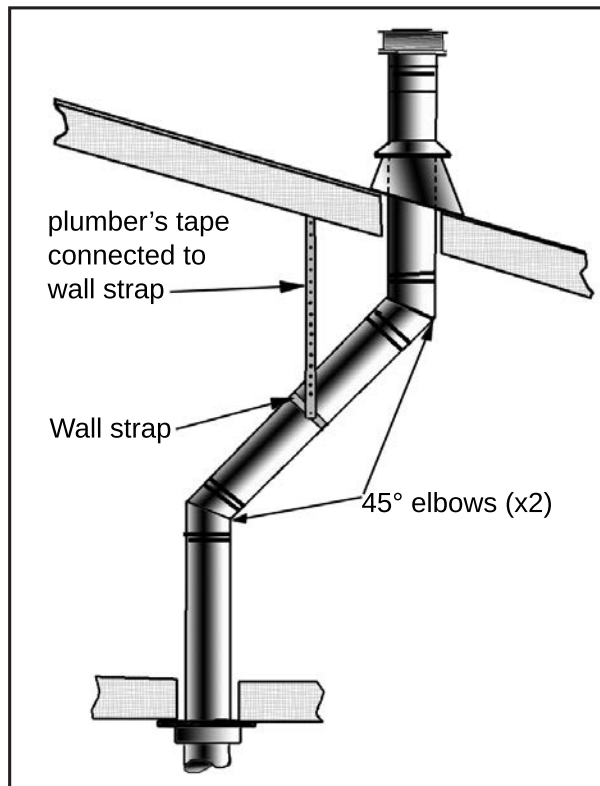
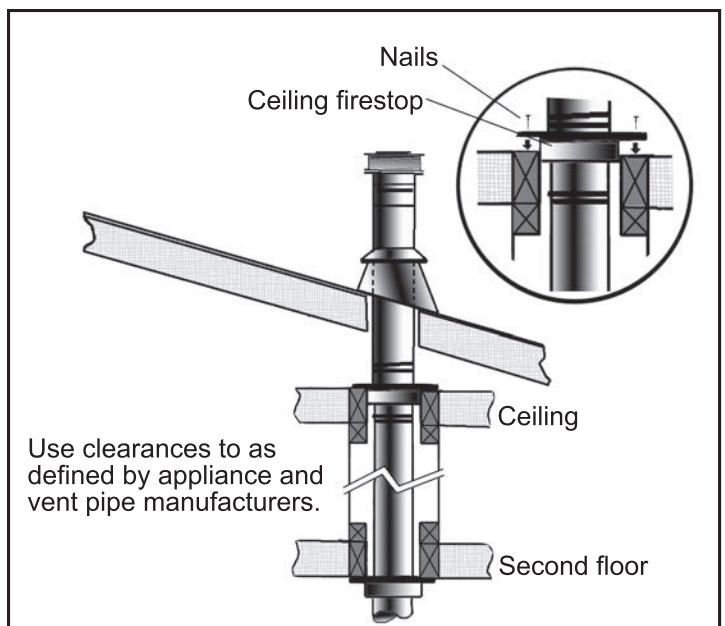

Figure 45: Use of Wall Straps.
Figure 46: Multi-Story Vent Pipe Installation.
- (1) If an offset is necessary in the attic to avoid obstructions, it is important to support the vent pipe every 3 feet (914 mm), to avoid excessive stress on the elbows, and possible separation. Wall straps are available for this purpose (see Figure 45).
- (2) When ever possible, use 45° degree elbows instead of 90° degree elbows. The 45° degree elbow offers less restriction to the flow of flue gases and intake air.
- (3) For multi story installations; a ceiling firestop is required at the second floor, and any subsequent floors (see Figure 46). The opening should be framed to 10" (254 mm) x 10" (254 mm) inside dimensions, in the same manner as shown in Figure 32.
- (4) Any occupied areas above the first floor, including